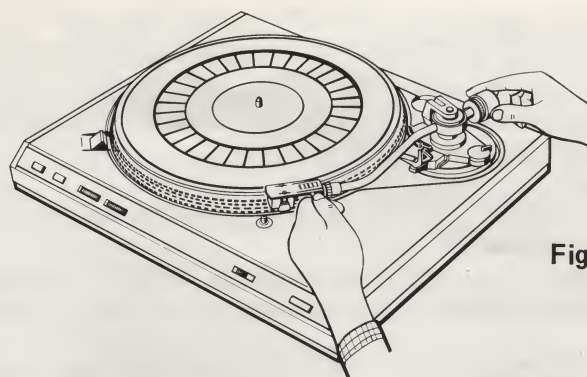

Fig. 3
- 1 With cartridge and shell installed, release the tone arm from its rest position. Hold the tone arm loosely by the tone arm lift (Fig. 3). Rotate counterweight in either direction until the tone arm starts to rise. Continue adjusting the counterweight until the tone arm floats (balanced) and is parallel to the surface of the platter.